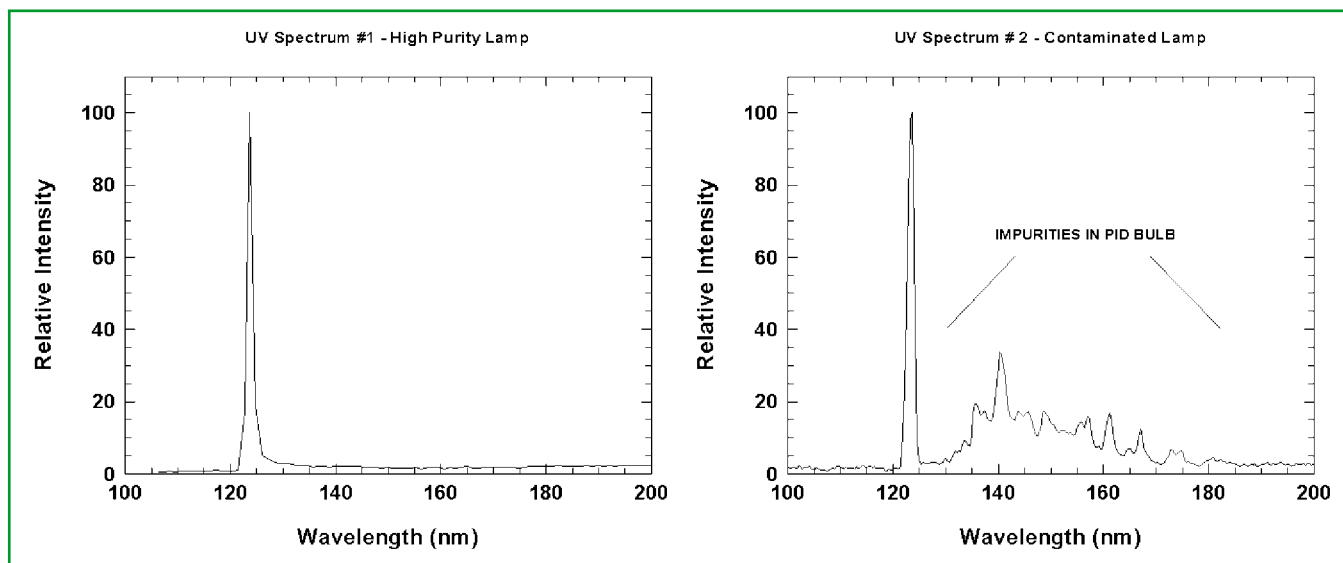

Figure 1. UV spectra of low-energy PID lamps from two different manufacturers.
The energy for ionization is provided by a special lamp designed to emit ultraviolet (UV) light. The “heart” and most critical part of the instrument is the PID lamp, which consists of a glass tube filled with low-pressure gas and sealed with a crystal window. The gas within the tube (or “bulb”) is usually an inert gas such as krypton (Kr). Two basic versions of PID lamps exist: with or without internal electrodes. The basic operational principle of both versions is the same; they emit UV light by electrical breakdown (discharge) of the gas sealed in the tube. Well-sealed and cleanly processed lamps provide a UV output with a defined and repeatable energy spectrum as shown on the left, compared with that of a poorly processed lamp as shown on the right (Fig.1). Contaminated lamps like this example whose spectrum is shown on the right, will not provide consistent performance from lamp to lamp, especially if the lamp processing is contaminated and results in outgassing of extraneous compounds into the volume of the tube. Its expected lifetime can be compromised as well.